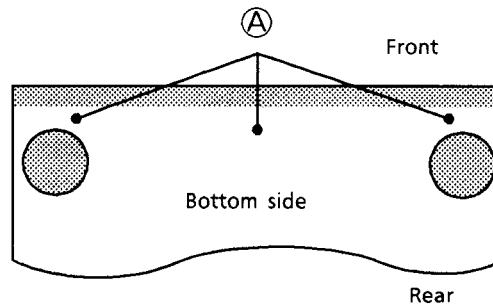

Fig 1. Bottom View
(2) Removing the Front panel Ass'y(Fig.1)